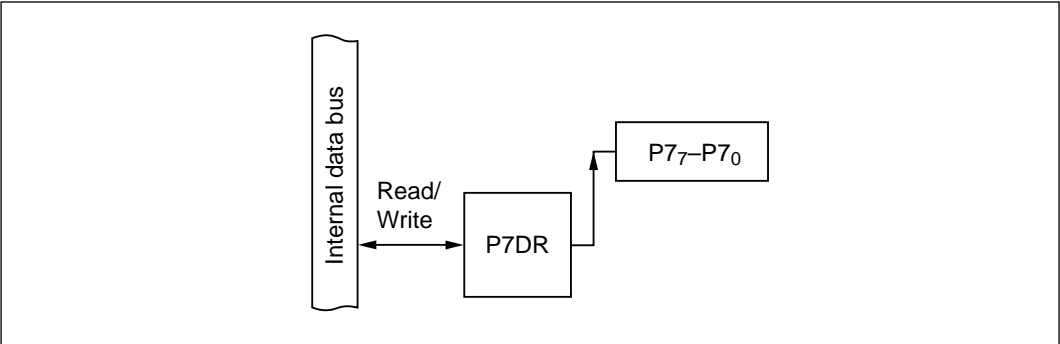

Figure 9-45 Output Port (Modes 1 to 7)
(2) **Output Port (Modes 1 to 7):** Figure 9-45 shows a block diagram illustrating the general-purpose output function. Table 9-35 indicates register read/write data. The value written in the port 7 data register (P7DR) is output at the pin. When read, P7DR returns the value written in P7DR.